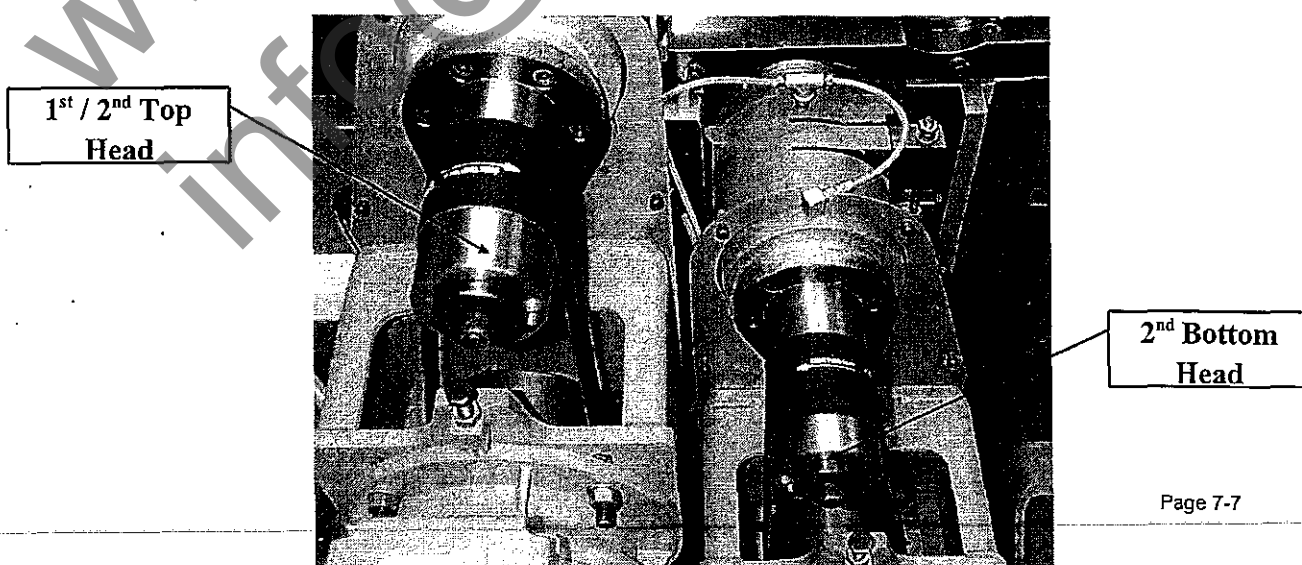

Figure 7.3.4
12. To re-assemble the spindle simply reverse the above procedure remembering to follow the belt tensioning information documented in (Figure 7.3.4.)
15. To re-assemble the spindle simply reverse the above procedure remembering to follow the belt tensioning information documented in (Figure 7.3.4.)
### 7.3.4 Replacing K23/K25 Top and Bottom Drive Belts (Figure 7.3.4.)
6. Refer to Figure 7.3.4. to ensure the direction of the belt conforms to the spindle position on the machine.